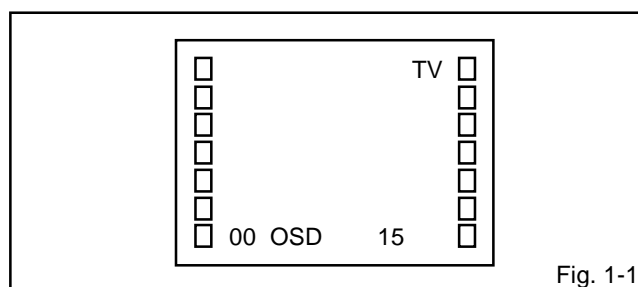

Fig. 1-1
2. Press the VOL. DOWN button on the set and the Channel button (9) on the remote control simultaneously to appear the adjustment mode on the screen as shown in Fig. 1-1.
7. Activate the adjustment mode display of Fig. 1-1 and press the channel button (03) on the remote control to select "VIF VCO".
3. Activate the adjustment mode display of **Fig. 1-1** and press the channel button **(02)** on the remote control to select "RF AGC DELAY".
5. Activate the adjustment mode display of **Fig. 1-1** and press the channel button **(01)** on the remote control to select "CUT OFF".
4. Activate the adjustment mode display of **Fig. 1-1** and press the channel button **(10)** on the remote control to select "R CUT OFF".
3. Activate the adjustment mode display of **Fig. 1-1** and press the channel button **(05)** on the remote control to select "H PHASE".
3. Activate the adjustment mode display of **Fig. 1-1** and press the channel button **(07)** on the remote control to select "V SHIFT".
3. Activate the adjustment mode display of **Fig. 1-1** and press the channel button **(06)** on the remote control to select "V SIZE".
3. Activate the adjustment mode display of **Fig. 1-1** and press the channel button **(13)** on the remote control to select "BRIGHTNESS".